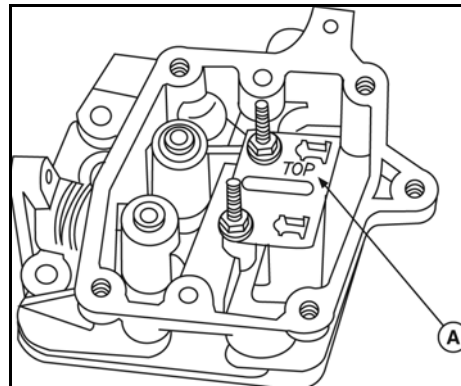

Figure 12
- Install new plastic push rod guides into the cylinder head plate (A, Figure 12) (models 110000, 120000, 150000). Using new plate gasket, install the cylinder head plate. Torque screws to values listed in Section 12 - Engine Specifications.